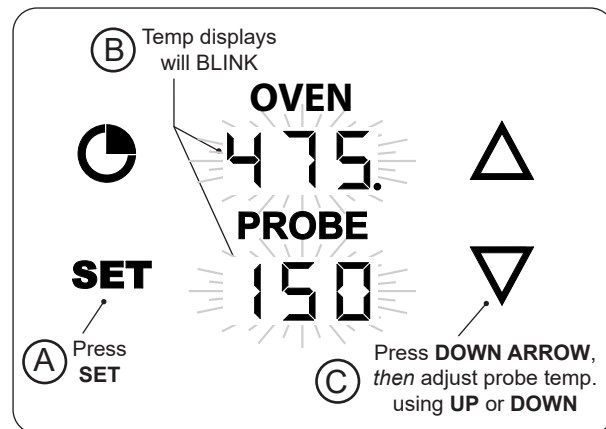

Fig. 34-2 Set probe temperature
1. With the thermometer **on** and the meat probe plugged in, press the **SET** button once. The OVEN and PROBE displays will blink. (While blinking, either area can be selected to enter their settings.) See Fig. 34-2, A and B.
2. Press the **DOWN ARROW** to select the probe settings, then you may use the up or down arrows to set the desired temp (Fig. 34-2, C).